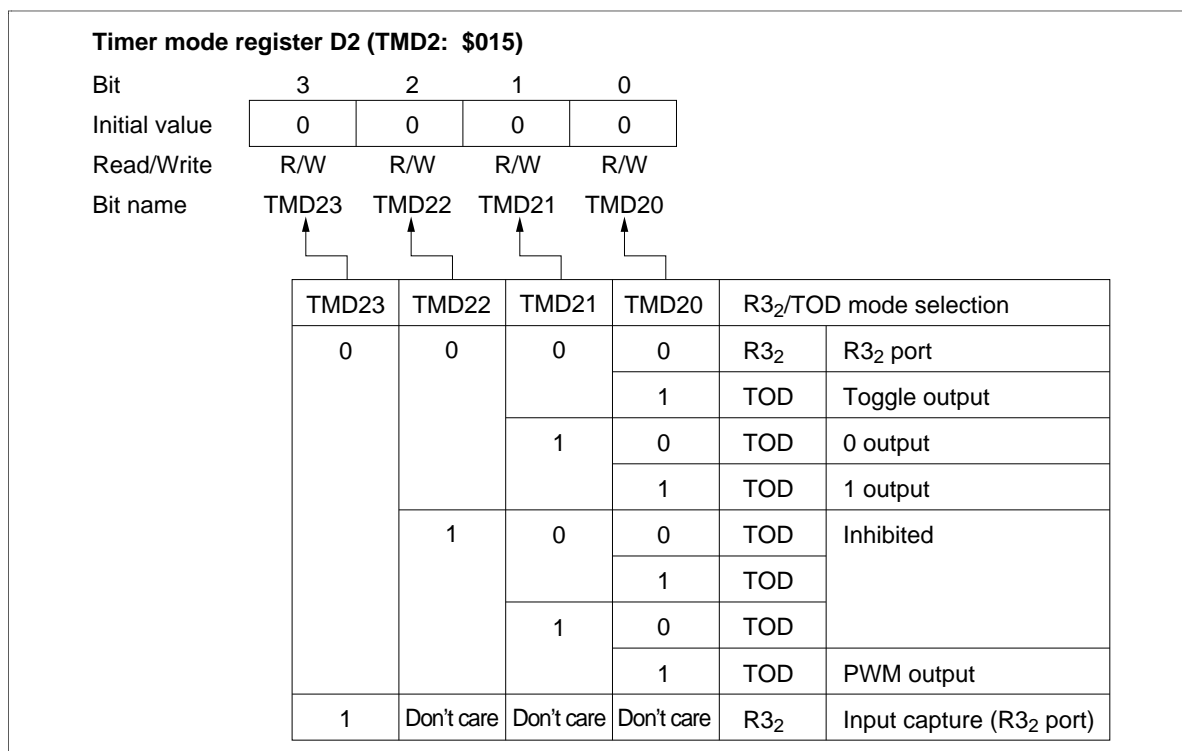

Figure 60 Timer Mode Register D2 (TMD2)
- Timer mode register D2 (TMD2: \$015): Four-bit read/write register that selects the timer D output mode and input capture operation as shown in figure 60. It is reset to \$0 by MCU reset.